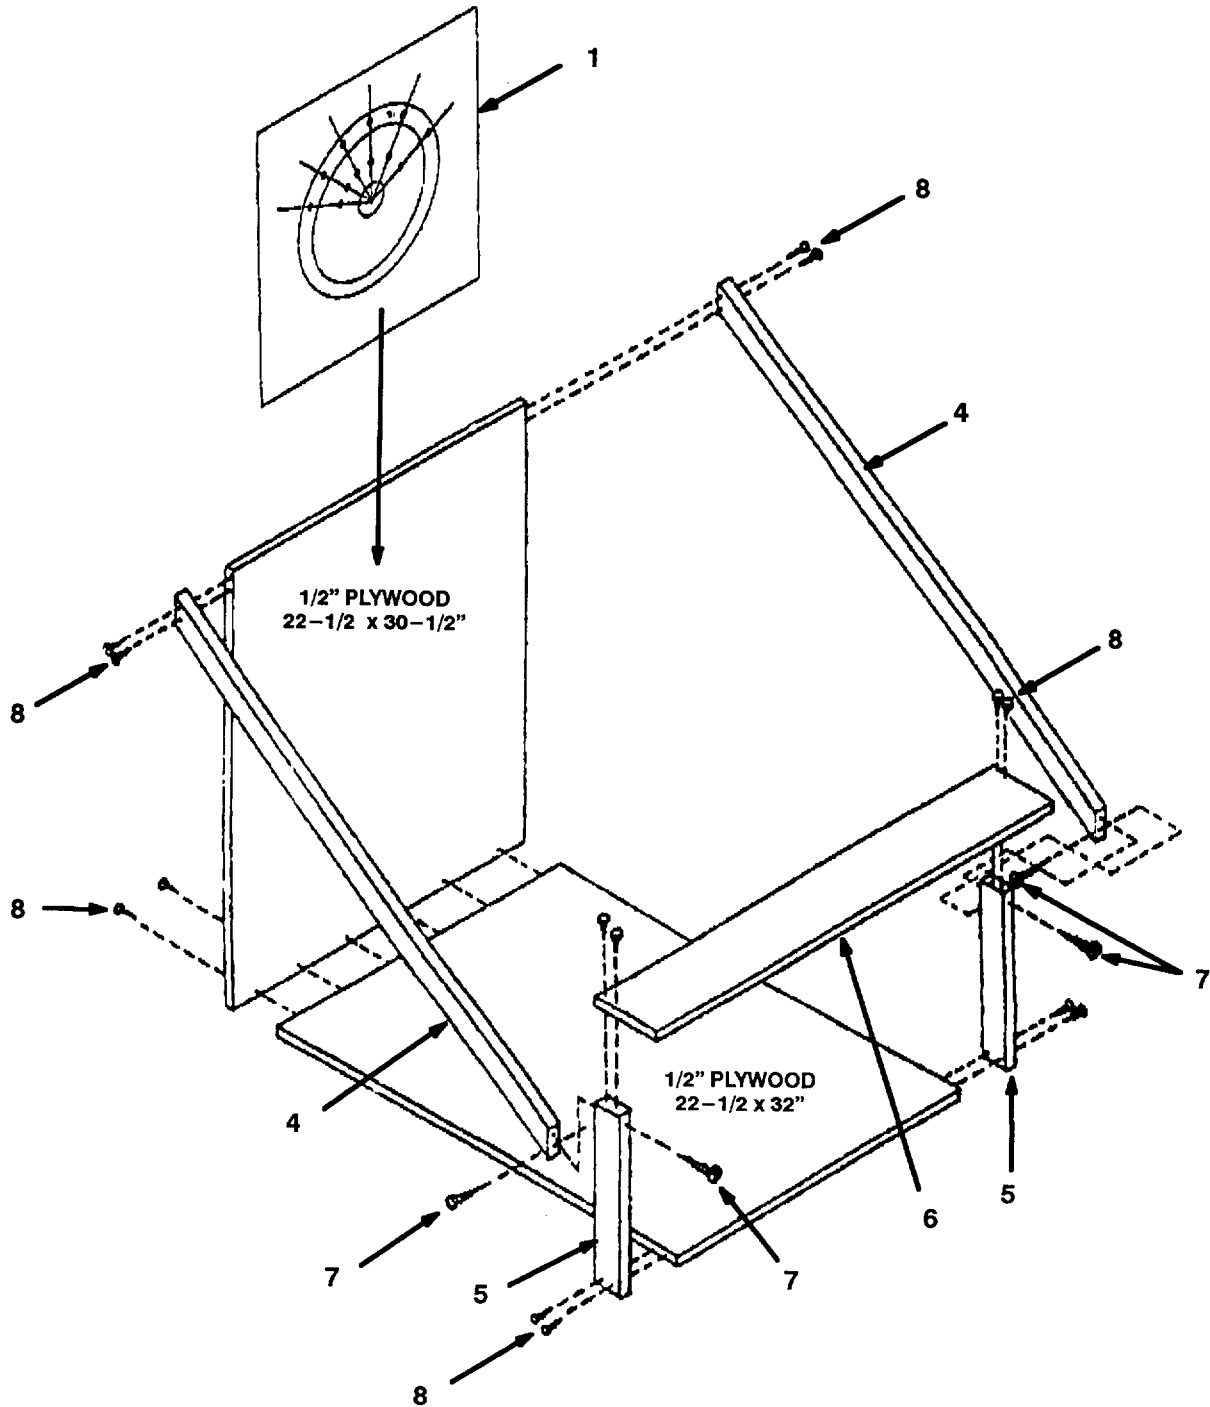

Figure E-1. Black Spot Test Stand.
- b. A part number index in alphanumeric order is provided for cross-referencing the part number of the item to be manufactured to the figure which covers fabrication criteria. See Figure E-1.